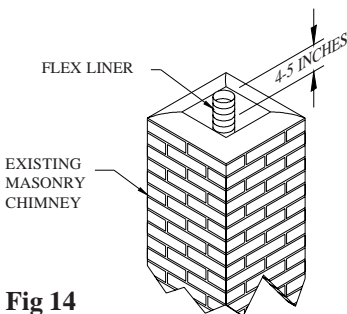

Fig 14
Step 1. When terminating your Flex Liner installation, insure the Flex Liner extends 4-5 inches over the top of the masonry chimney, as shown in **Figure 14**. Trim or bend the base of the Top Plate to fit on the masonry chimney as needed.